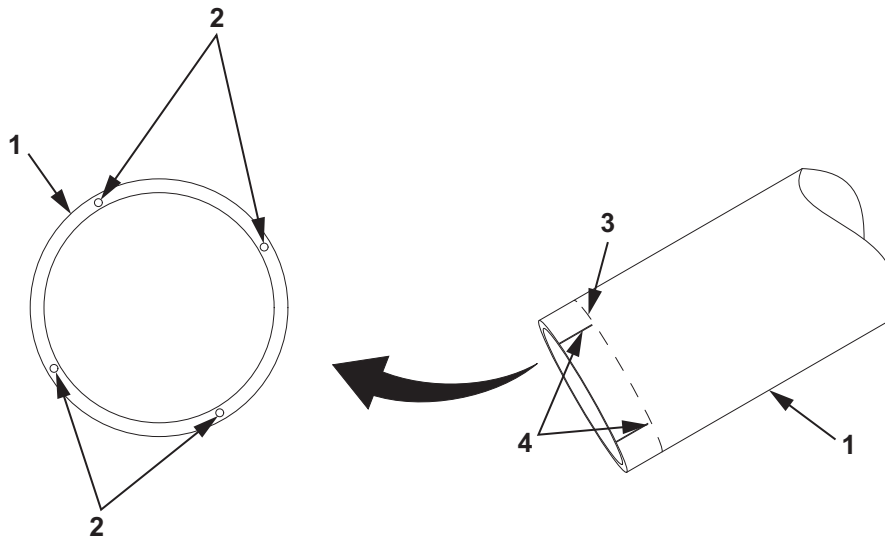

Figure 1. Hose Assembly Repair.
1. Place drip pan under hose assembly (Figure 1, Item 1) to be repaired.
2. Inspect hose assembly (Figure 1, Item 1) to identify the extent of damage.
3. Using a knife, remove the damaged portion by cutting the hose assembly (Figure 1, Item 1) on both sides of the damaged area. Discard damaged hose assembly (Figure 1, Item 1).
4. Locate the position of the ground wires (Figure 1, Item 2) in the hose assembly (Figure 1, Item 1).
5. Using a marking pen, draw a line (Figure 1, Item 4) approximately 1 to 1 1/4 in., down the length of the hose assembly (Figure 1, Item 1) to show the location of each ground wire (Figure 1, Item 2).
6. Using a marking pen, draw a radial line (Figure 1, Item 3) around the hose assembly (Figure 1, Item 1), approximately 1 to 1-1/4 in. back from the cut end of the hose assembly (Figure 1, Item 1).
8. Using a knife, expose the ground wire (Figure 2, Item 4) by cutting the hose assembly (Figure 2, Item 2) fabric parallel to the lengthwise line (Figure 1, Item 1) previously marked not to exceed 1/2 of the hose assembly thickness (be sure not to cut completely through the hose assembly fabric). Cut approximately 1/4 in. (Figure 2, Item 3) on both sides of the lengthwise line (Figure 1, Item 3).